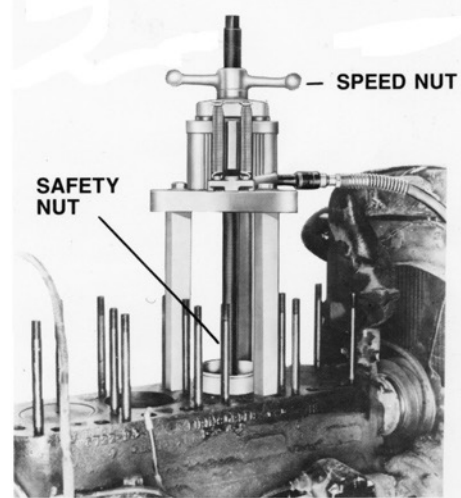

Figure 5
3. Remove the threaded insert from the hydraulic cylinder, and replace it with the smooth insert (Item 14). Place the hydraulic cylinder on the pulling screw, and take up any slack with the speed nut (Item 15). See Figure 5.
2. Place a safety nut (Item 13) on the pulling screw in the location shown in Figure 5.